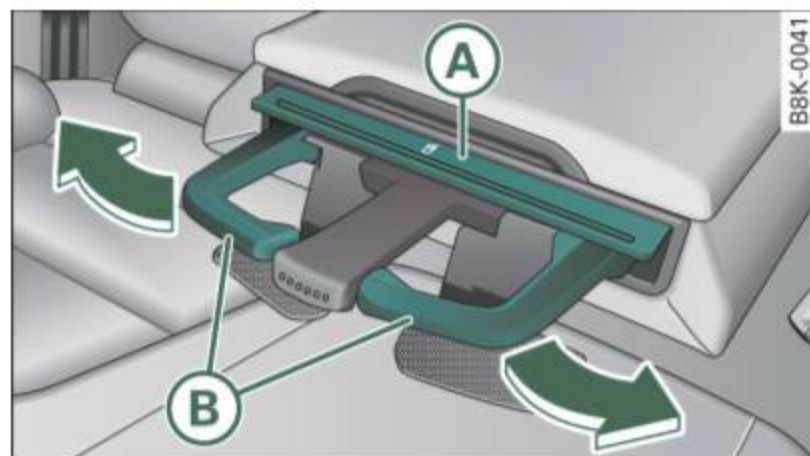

Fig. 100 Beverage storage in the rear arm rest
- Press on the symbol  (A) ⇒ fig. 100.